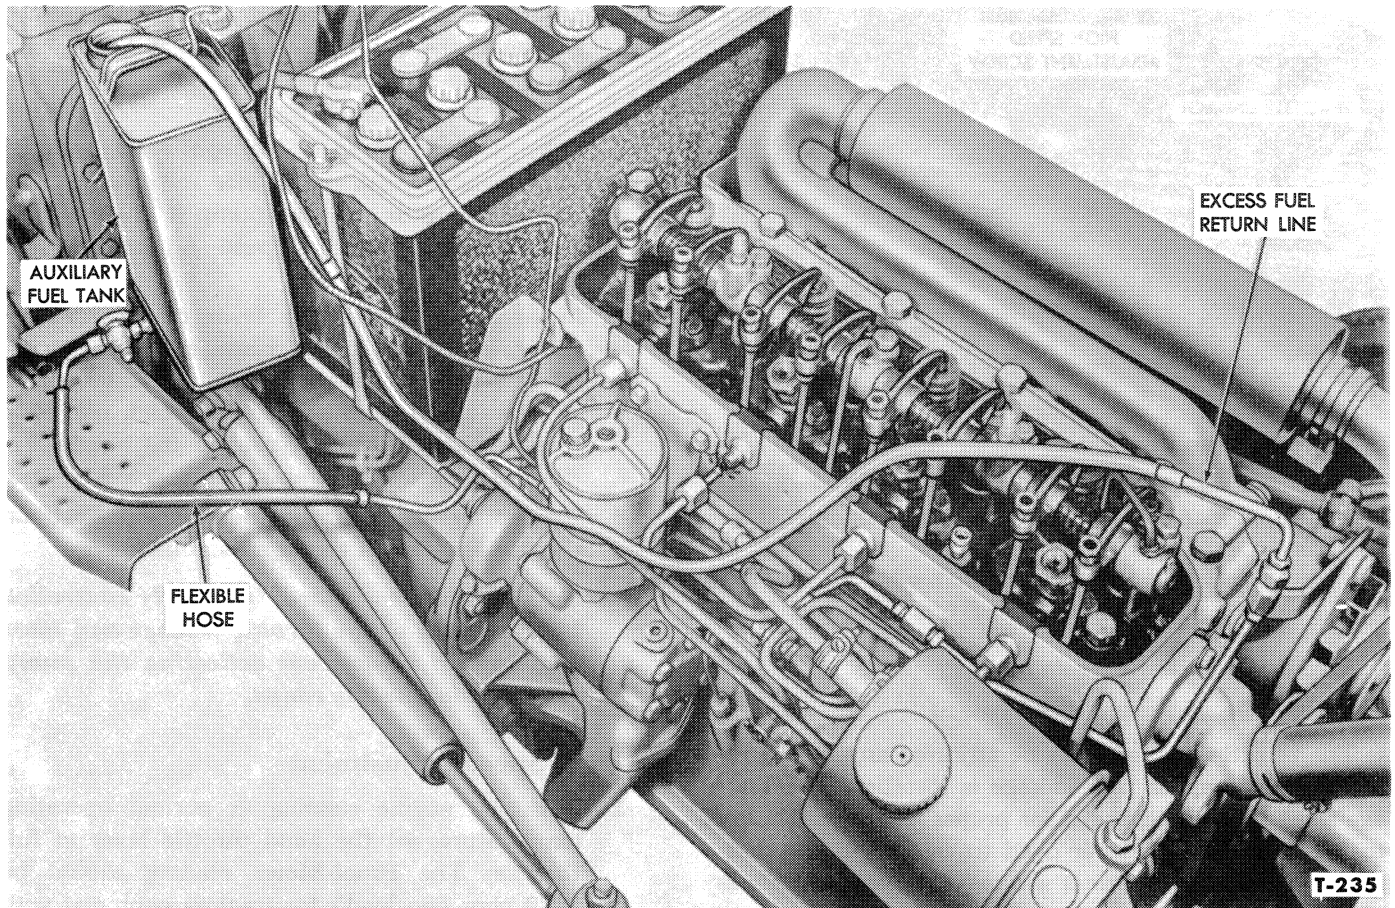

Figure 2—Flushing Fuel System
2. Crank the engine to direct fuel from each pressure line into its respective injector inlet and flush away any dirt or foreign material, Figure 2.